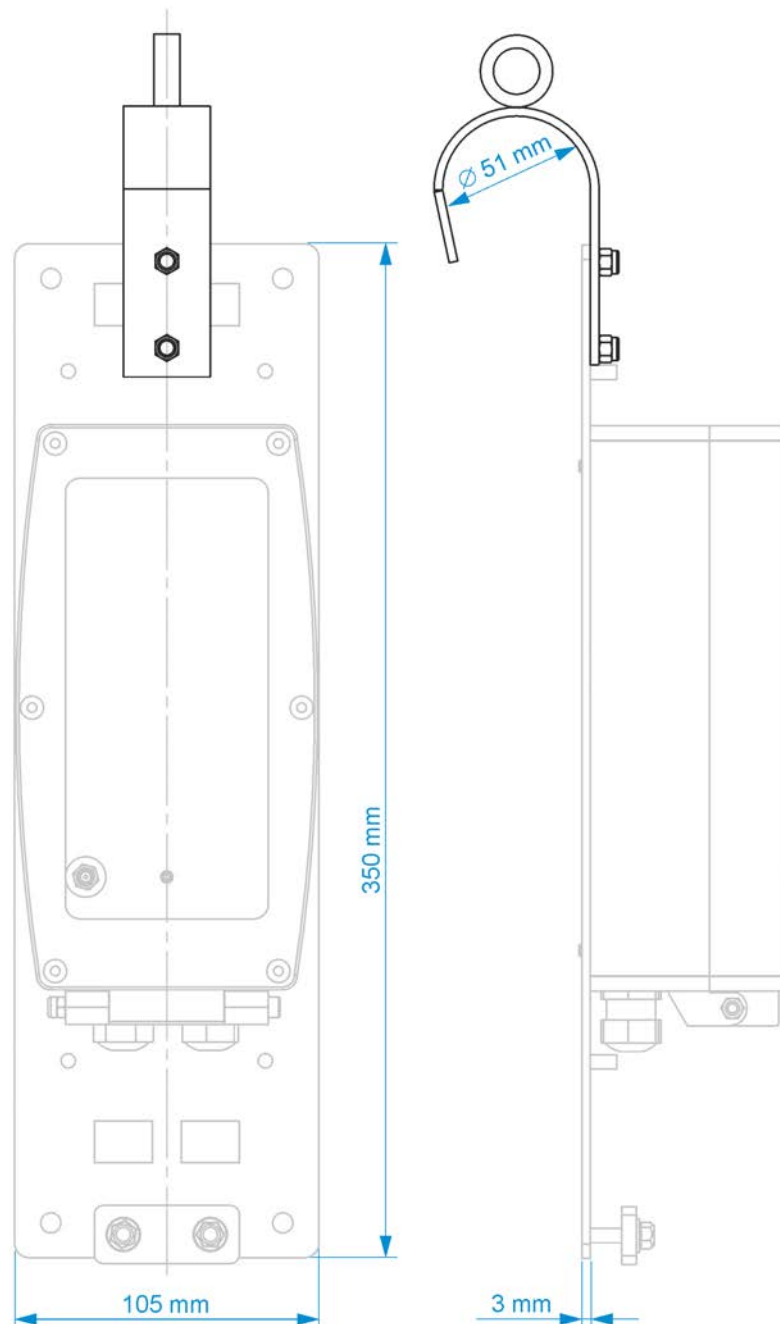

Fig. 24-3 Fastening with bracket on step iron (Ex and non-Ex)
- Enclosure rear panel mounted on a mounting plate (3 mm thick) with bracket for hanging on the step iron in a shaft (see Fig. 24-3)
5. Screw the enclosure to the wall or fasten the data logger to the mounting plate (if necessary, also the bracket; Fig. 24-3).